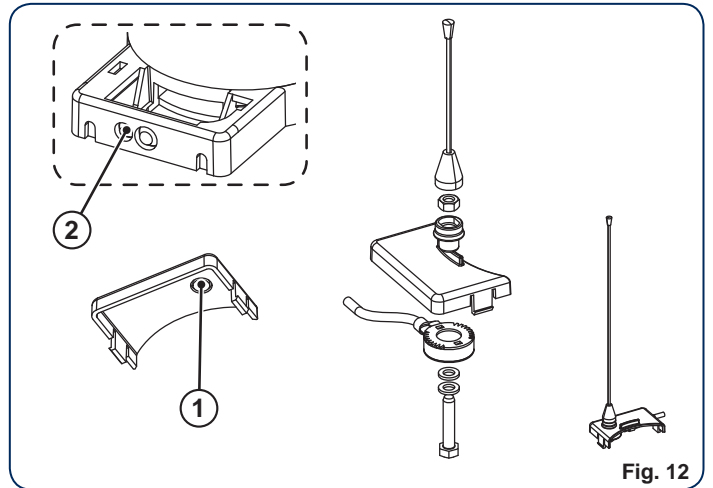

Fig. 12
- Clear the pre-bored holes, Ø9 (Fig. 12 ref. ① ②).
- Install the antenna and the provided accessories (Fig. 12).